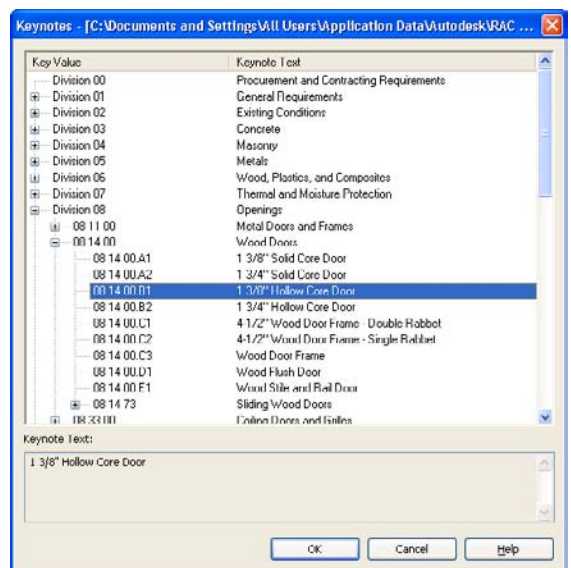

Figure 12.26
3. This takes you to the Keynotes dialog box (Figure 12.26). Select the appropriate keynote for the element you have selected.